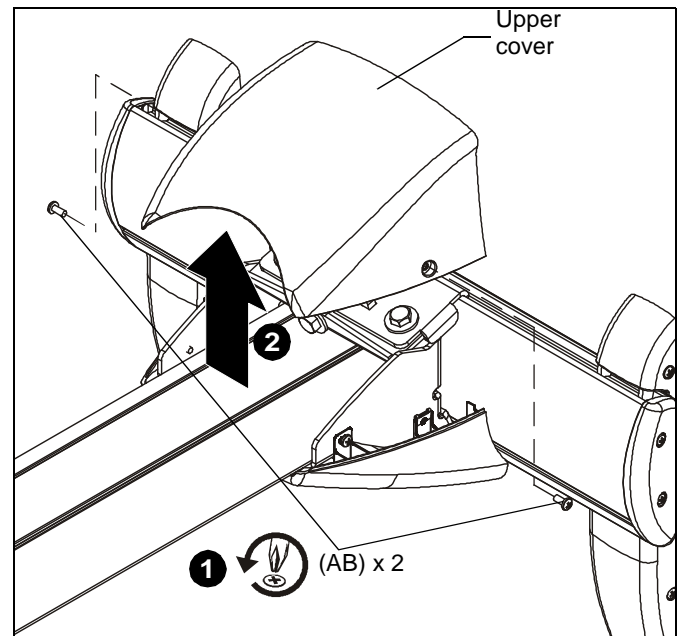

Figure 43
1. Remove two 8-32 x 3/8" Phillips pan head screws (AB) from upper cover. (See Figure 43)
2. Raise and remove the upper cover from the mount. (See Figure 43)